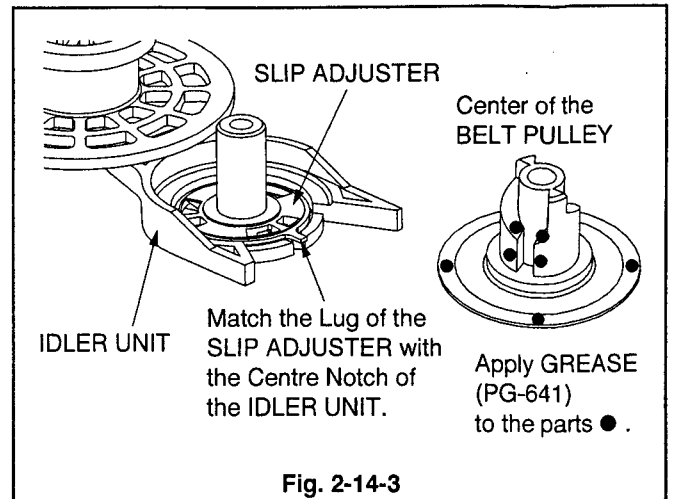

Fig. 2-14-3
6. Apply GREASE (PG-641) [859D055O30] to the parts on the new BELT PULLEY specified in the Fig. 2-14-3.
8. Install the SLIP ADJUSTER shown in the Fig. 2-14-3, matching the Lug of the SLIP ADJUSTER with the Centre Notch of the IDLER UNIT.